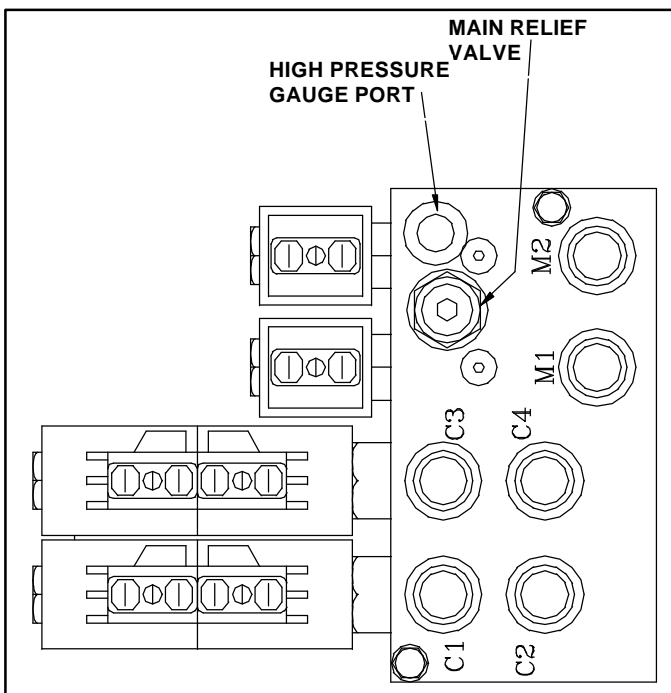

Figure 4-3: Main Manifold Block
4.5 Setting Hydraulic Pressures (Figure 4-3)
MAIN RELIEF VALVE (Figure 4-3)